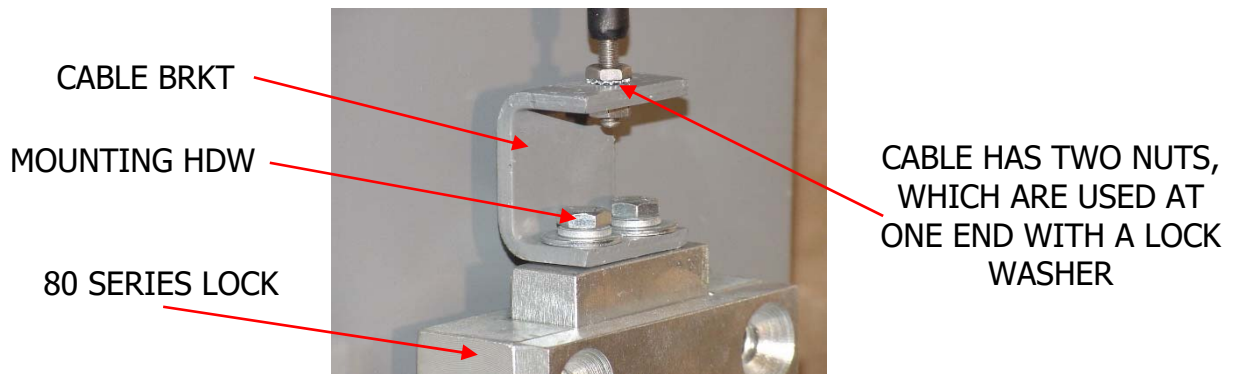

FIGURE 21
19. The mechanical release of the door is typically accomplished with a cable attached at one end, to a **Cable Bracket**, which is attached to a #10 or #80 Series Deadbolt with (2) 1/4-20 x 3/4 HHCS, (2) 1/4 Lock Washer, (2) 1/4 Flat Washer (**Hardware Bag #6, #7, #12**) (Figure 21). The cable is attached by both #10 nuts from the cable and (1) Lock Washer (**Hardware Bag #13**).